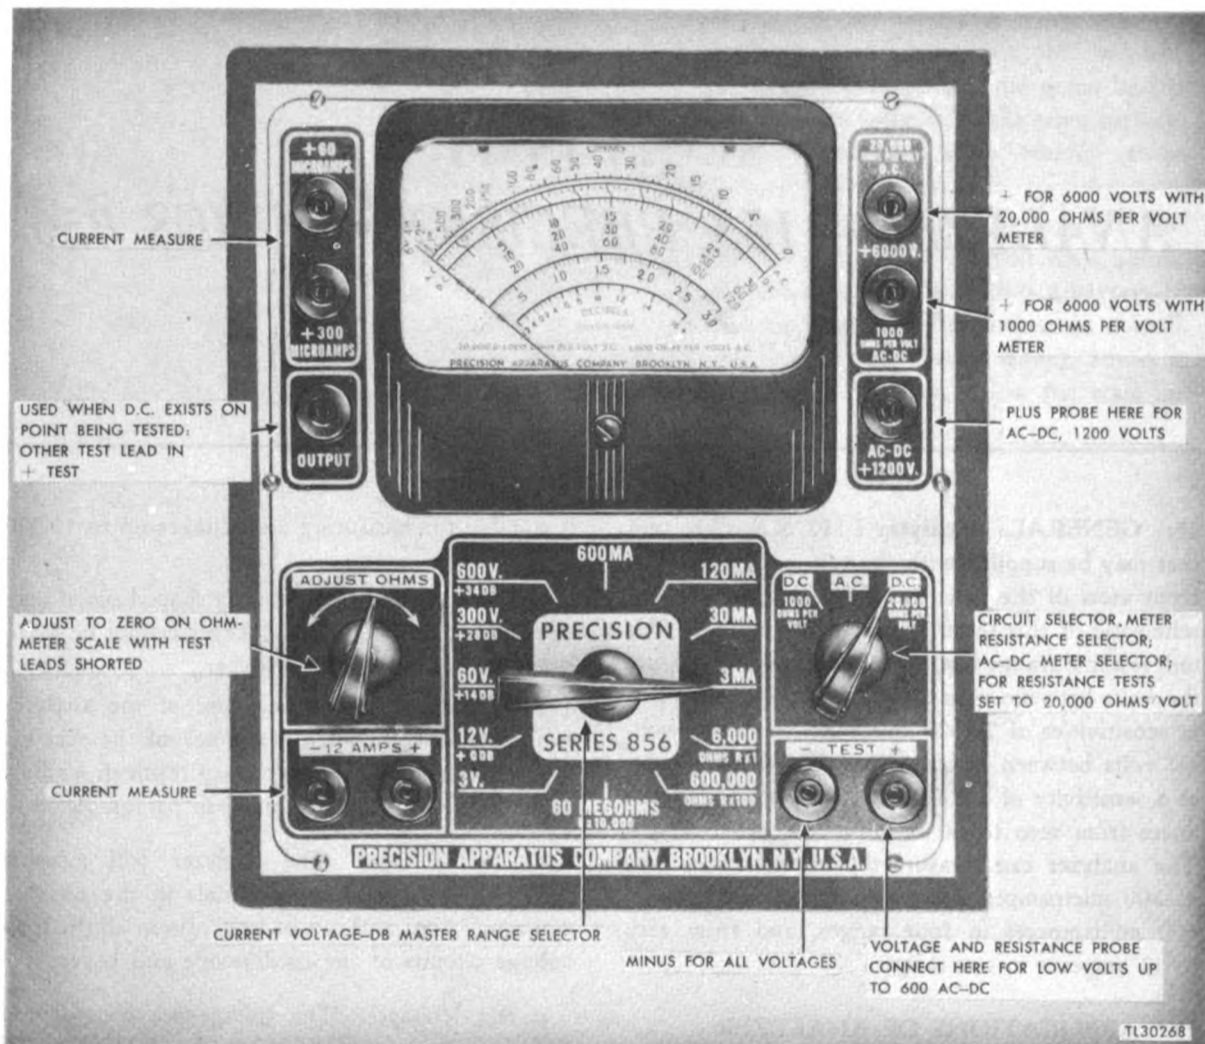
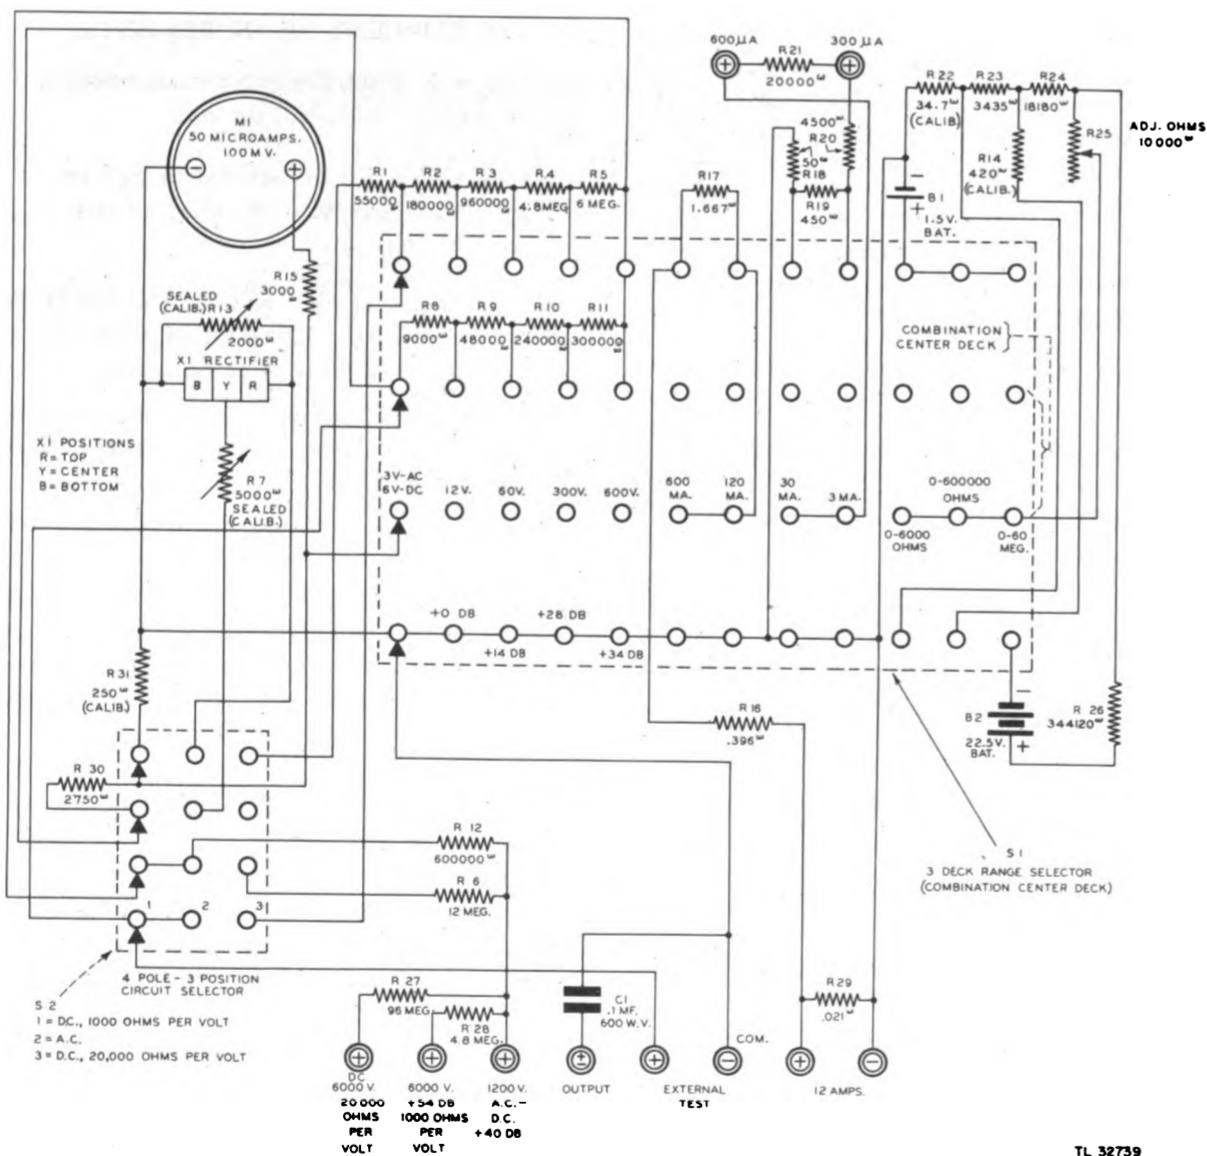

Figure 8. Analyzer I-153, Precision model 856, panel view.
Figure 9. Analyzer I-153, Precision model 856, schematic diagram.
18. GENERAL. Analyzer I-153 is another unit that may be supplied with the test equipment. The front view of the panel is shown in figure 8. The schematic of this tester is shown in figure 9. This unit is a multirange instrument equipped to measure d-c volts between zero and 6,000 in seven ranges, at sensitivities of 20,000 and 1,000 ohms per volt; a-c volts between zero and 6,000 in seven ranges, at a sensitivity of 1,000 ohms per volt; and resistances from zero to 60 megohms in three ranges. The analyzer can measure d-c current from zero to 300 microamperes in two ranges, from zero to 600 milliamperes in four ranges, and from zero to 12 amperes in one range.
a. Limitations. (1) Operating voltages in Radio Set SCR-268-(*) cover a range from a fraction of a volt to about 11,000 volts. Voltages in parts of certain components cannot be measured by the analyzer because they exceed the range of the analyzer. Such voltages appear in the transmitter, the rectifier, the modulator, the high-voltage power supply (to the cathode-ray tube), the oscilloscope, and the final amplifier and high-voltage power-supply circuits of the keyer.
(2) The schematic diagram (fig. 9) shows the values of component parts.